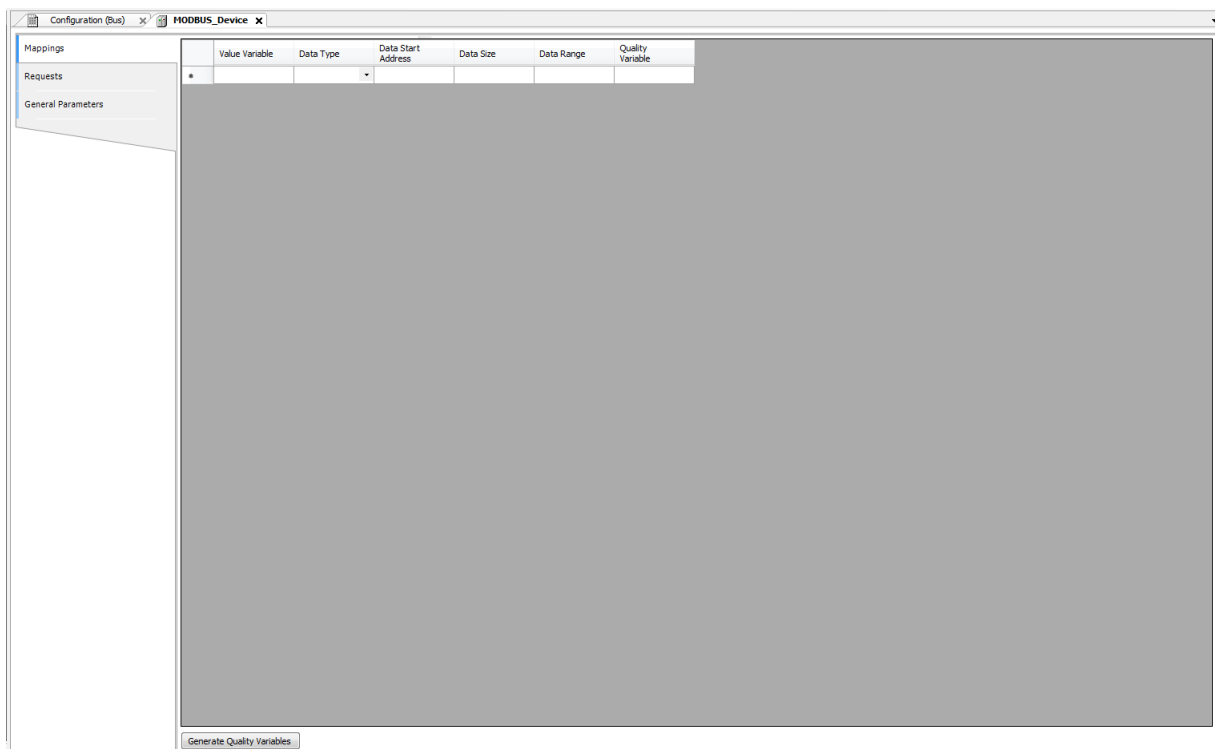

Figure 55: MODBUS Data Mappings Screen
- Add and configure the MODBUS mappings on Mappings tab as Figure 55, specifying the variable name, data type, and the data initial address, the data size and range are filled automatically.